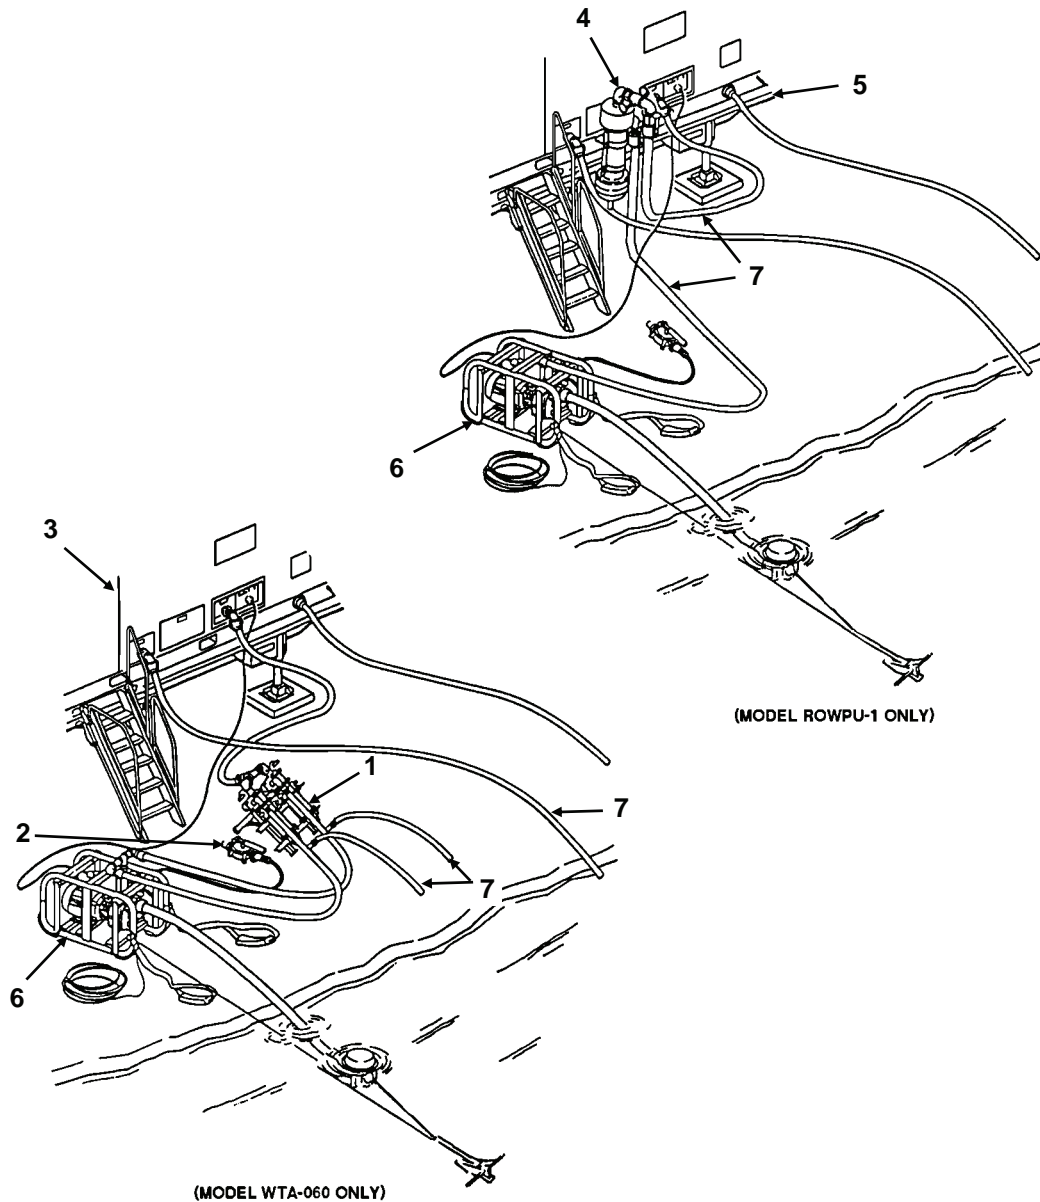

Figure 8. Cyclone Separators
Cyclone Separators (Figure 8). The cyclone separation system used on the WTA-060 model consists of two separators (1) mounted on a separate frame (2) that is placed on the ground near the ROWPU (3). The cyclone separation system for the ROWPU-1 model consists of only one cyclone separator (4) which has been fabricated to be mounted in one of the stake pockets on the M871 trailer (5) used to transport the ROWPU system. As a result of this difference, the piping system on the raw water pump (6) and raw water hose (7) routing have been modified as shown in the illustration.